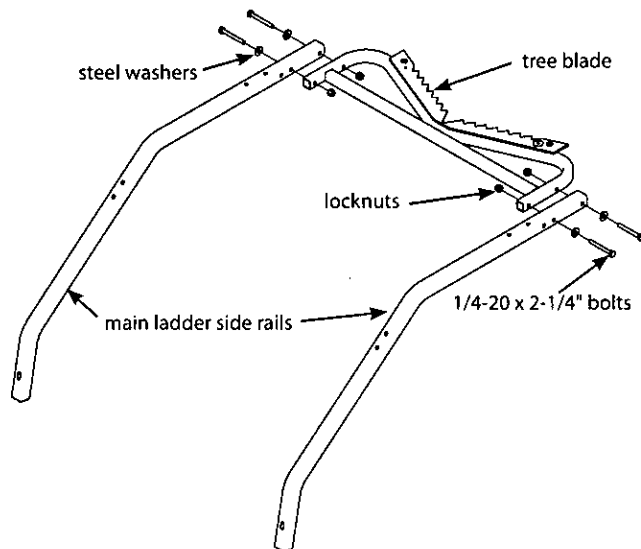

Figure 1
1. Attach the tree blade (10373) to the main ladder side rails (10346) using (4) provided 1/4-20 x 2-1/4" bolts, locknuts and steel washers. **SEE FIGURE 1. DO NOT tighten all nut and bolt assemblies completely!**